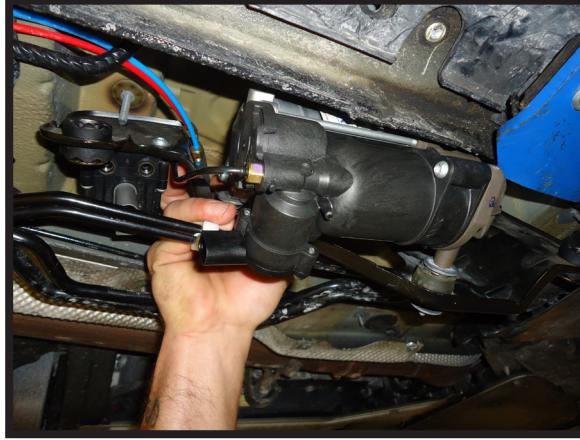

FIGURE 10-12
9. REMOVE THE COMPRESSOR ASSEMBLY FROM THE VEHICLE. (FIGURE 10-12)